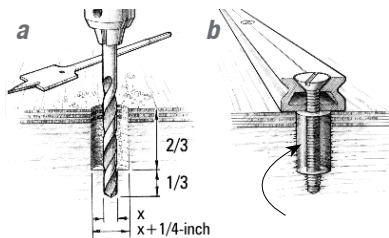

Figure 16 Drill oversized holes to increase the exposed substrate area and the amount of epoxy around the fastener.
1. Drill oversized holes $\frac{2}{3}$ – $\frac{3}{4}$ the depth of the fastener. The hole diameter is $\frac{1}{4}$ " larger than the fastener diameter (Figure 16-a).
5. Install the fasteners with just enough force to hold the hardware in place. Allow the epoxy to cure thoroughly before applying load to the hardware (Figure 16-b).